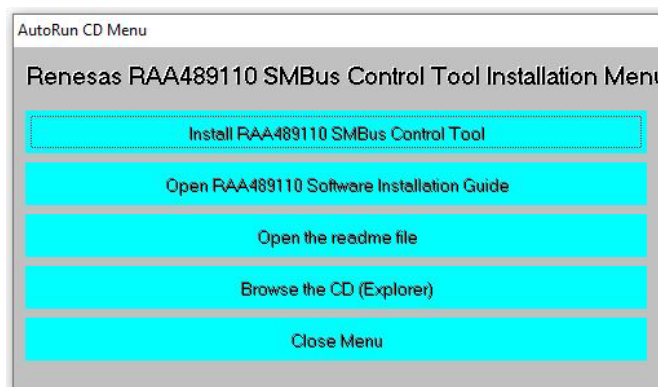

Figure 2. SMBus Control Tool Installation Wizard
2. Run autorun.exe. The menu in Figure 2 appears.